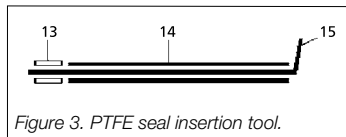

Figure 3. PTFE seal insertion tool.
- Each repair kit is supplied with a spare PTFE seal and insertion tool assembled as illustrated in figure 3, and consists of a stainless steel tube (14), wire (15) and PTFE seal (13).